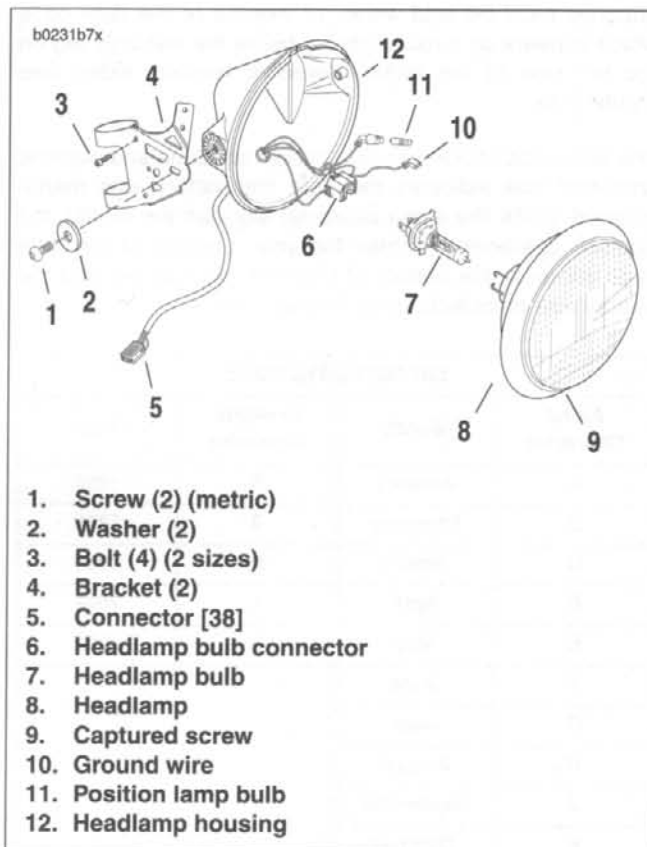
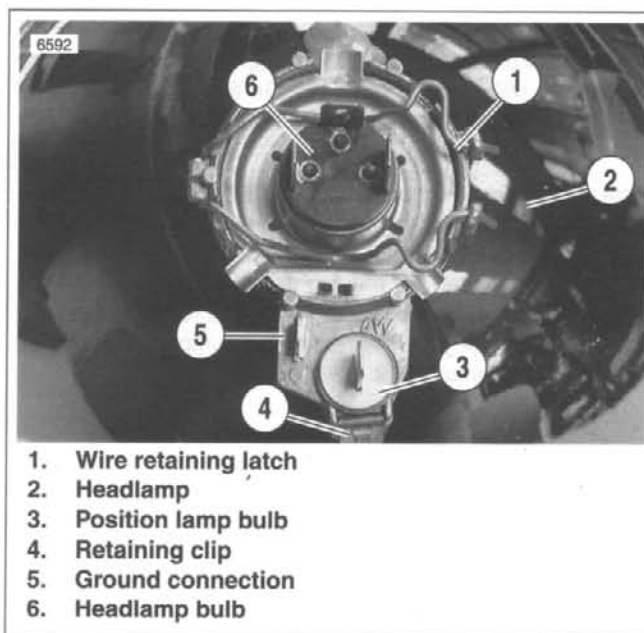

Figure 7-40. Headlamp Assembly
Figure 7-41. Headlamp Bulbs
1. See Figure 7-40. Loosen screw (9) at bottom of headlamp.
2. Pry headlamp (8) from headlamp housing (12).
3. See Figure 7-41. Press retaining clip (4) and remove position lamp bulb (3) from headlamp. Twist bulb to remove from harness.
4. See Figure 7-40. Remove screw (1) (metric) and washer (2) on each side.
- b. Remove four bolts (3) from weldnuts.
- c. Remove front forks and headlamp brackets (4). See 2.24 FRONT FORK.
1. See Figure 7-41. Install headlamp bulb (6).
- b. Close the wire retaining latch (1).
2. Insert position lamp bulb (3).
3. Connect ground wire (5).
4. See Figure 7-40. Place headlamp assembly in housing (12). Tighten screw (9).
- b. See Figure 7-40. Install four bolts (3).
3. See Figure 7-40. Install headlamp housing using two screws (1) (metric) and washers (2). Tighten to 6-8 ft-lbs (8.1-10.8 Nm).